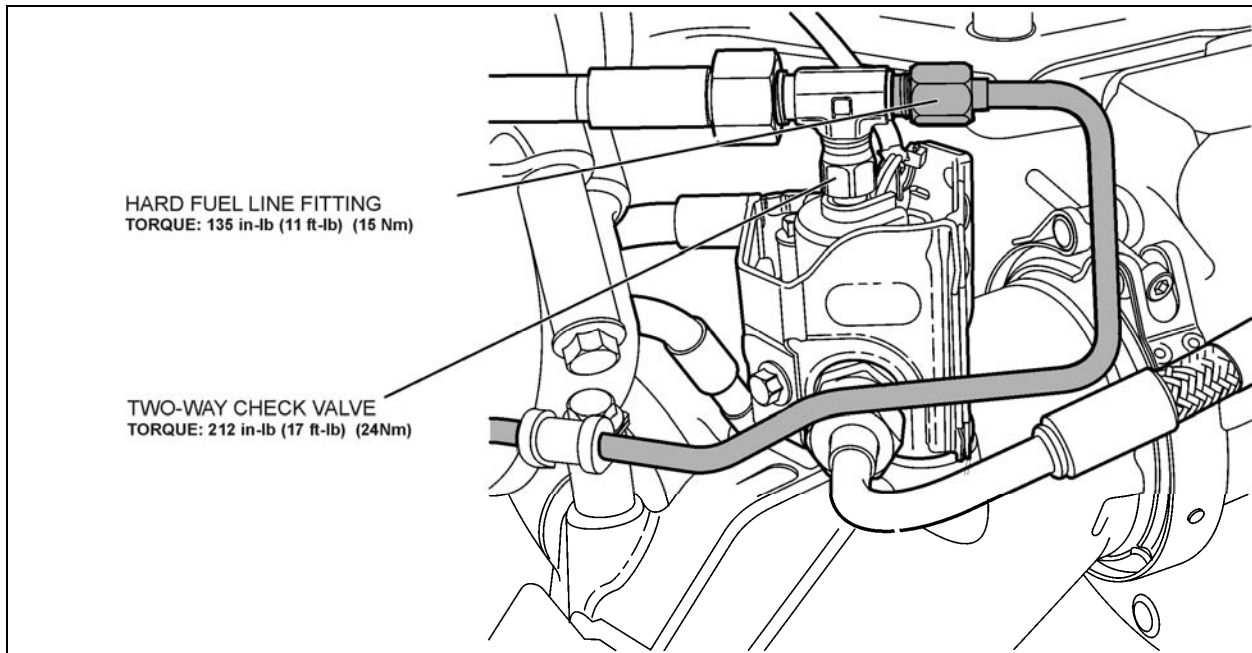

FIGURE 2
- 3) Check that the hard fuel line fitting connected to the two-way check valve is properly tighten (see figure 2). If necessary, tighten fitting to prevent fuel leaks (torque: 135 lb-in, 15 Nm). When tightening the fuel line fitting, secure the two-way check valve with a wrench, do not allow tightening force to be transmitted to the check valve nipple. Damage to nipple can result.